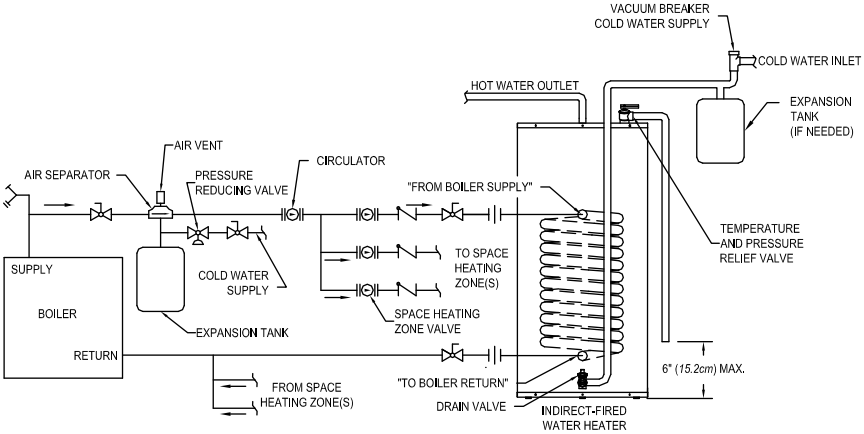

Figure 4 - Water Boiler Piping with Circulators
2. For a space heating system that utilizes CIRCULATORS, refer to Figure 4. The indirect-fired water heater connection labeled “FROM BOILER SUPPLY” should be piped to the boiler supply piping. Mount the circulator making sure the flow arrow points toward the water heater. The use of shut-off valves and unions are recommended for future service convenience. The use of an air separator and vent is recommended to eliminate air in the system. Pipe and fittings between the boiler and indirect-fired water heater must be $\frac{3}{4}$ ” diameter or larger.